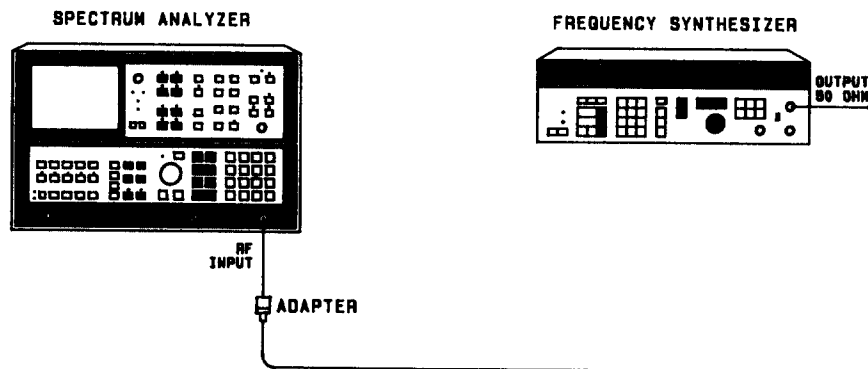

FIGURE 16. FREQUENCY RESPONSE TEST SETUP (0 Hz TO 4 MHz)
19. Connect equipment as shown in Figure 16.